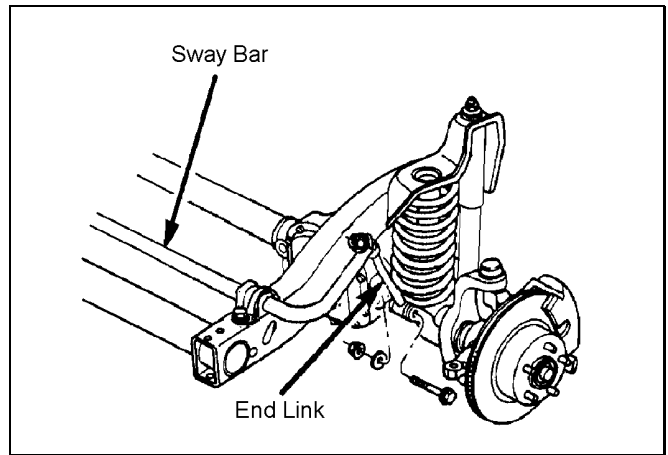

Figure 3
- 7) ☒ Position a floor jack under the front axle for support. Remove both front sway bar end links. See Figure 3.